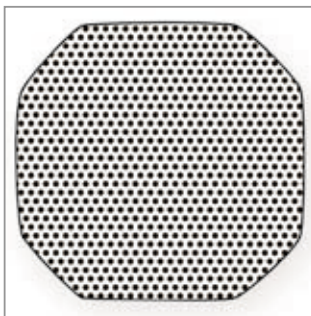

Figure 8
- Remove your Biomet® OrthoPak® Non-invasive Bone Growth Stimulator System when you bathe, shower or swim. You should also either remove the electrodes or cover them with the additional adhesive covers provided, as shown in Figure 8 if you prefer to leave the electrodes attached to the skin during bathing.